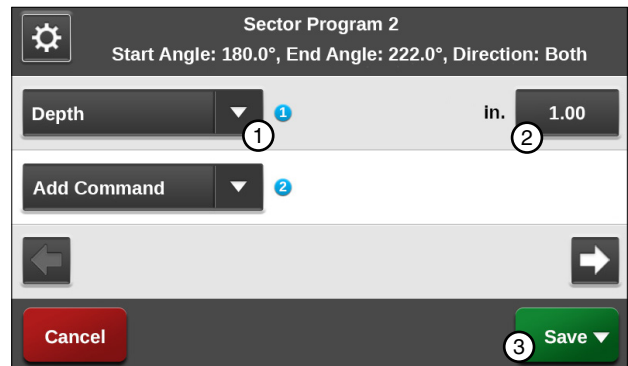

Figure 149-3 1. Depth Command 2. Inches 3. Save
- a) Select the **Choose Command** drop-down menu and choose **Depth**. Refer to Figure 149-3.